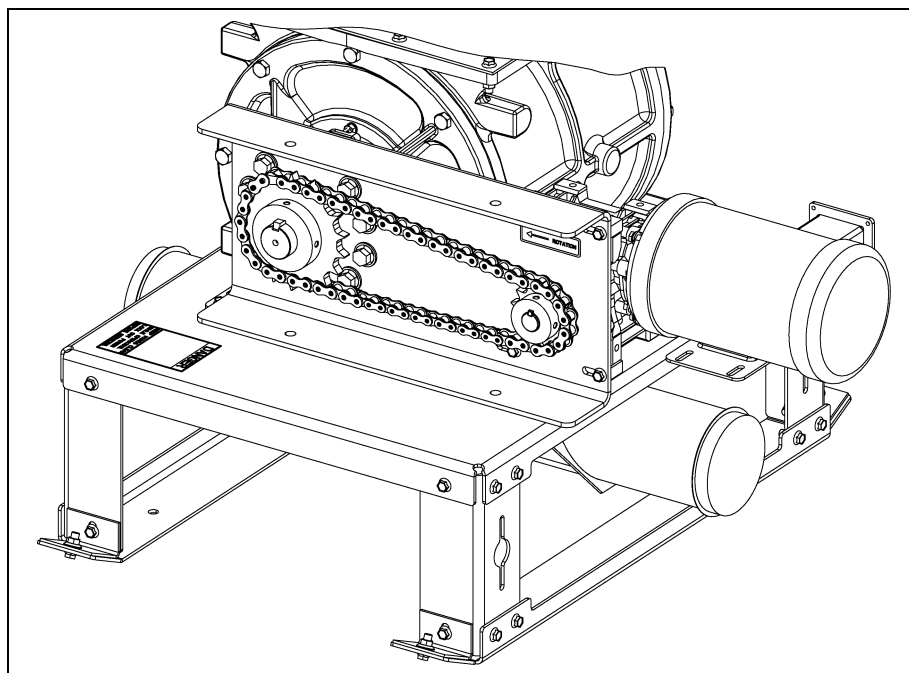

Figure 7K
9. Next, install the chain on to the sprockets and apply tension by sliding the gearbox to the right. (See Figure 7K.) Tighten the four (4) 3/8" flange bolts on the two (2) drive mount bars.